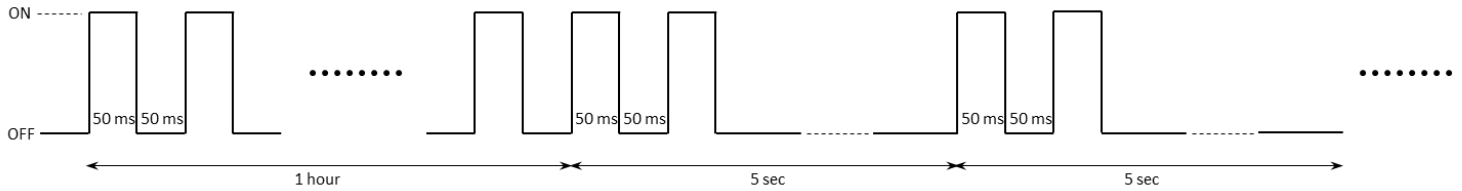

Figure 1-7: The GREEN LED Pattern During Join
4. Both **GREEN** and **RED** are turned off when the POST and the subsequent LED flashing specified in item 3 end.
- a. **GREEN** is toggled ON and OFF every 50 ms for the first hour. After that, it only flashes twice (ON time: 50 ms, OFF time: 50 ms) every 5 sec. This scheme has been shown in Figure 1-7.